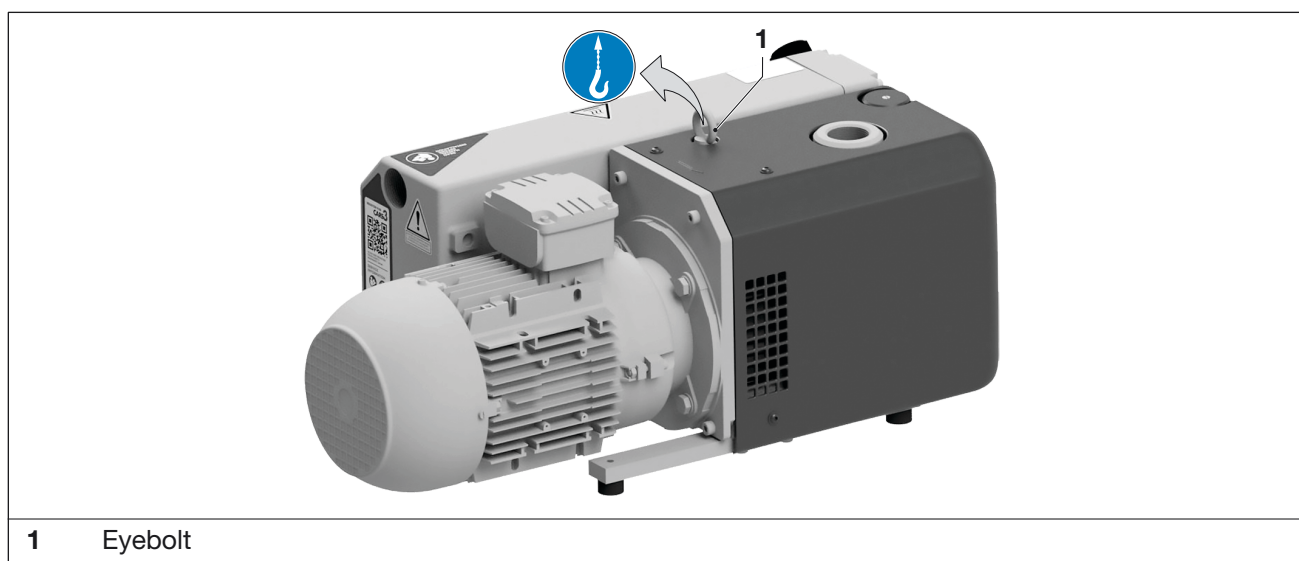

Fig. 1 Load handling equipment for lifting and transporting
- b) Tighten the eyebolt (Fig. 1/1) firmly.